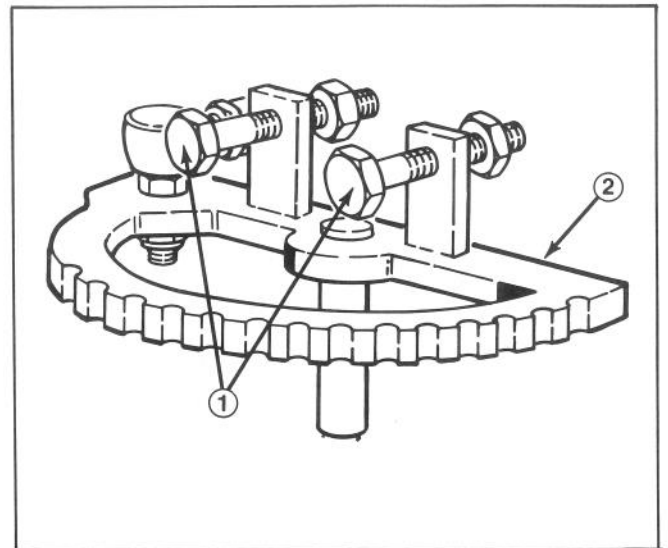

Figure 38
## ADJUSTING STEERING STOPS (Fig. 38)
1. Loosen locknuts securing stop screws to tabs on steering sector (Fig. 38).